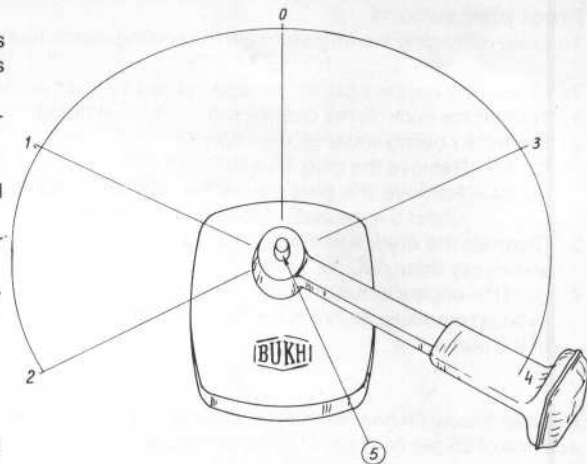

Fig. 10
2. Put the marine gear in neutral position by means of the control handle (fig. 10).
1. Put the gear lever in neutral position (fig. 10).